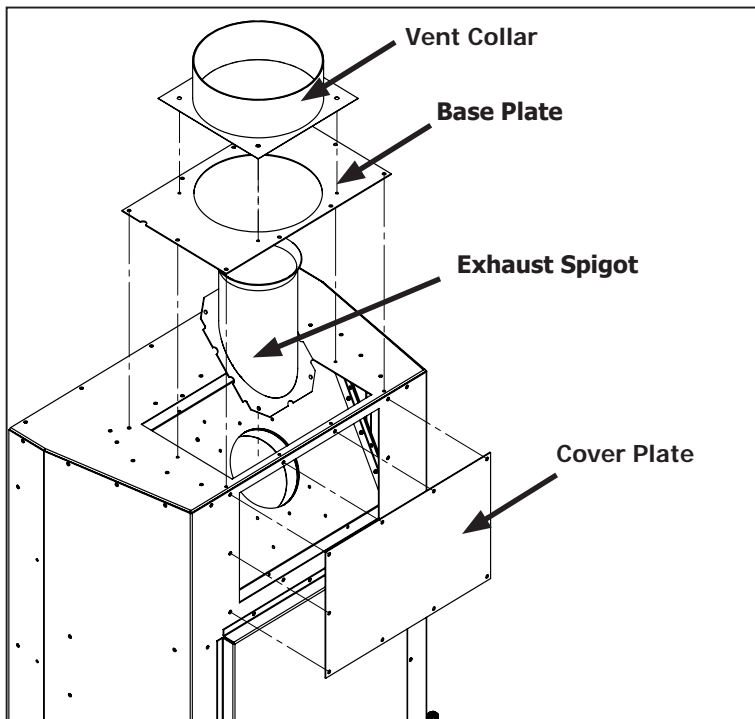

Figure 23. Vent Conversion - Step 1
**Step 1:** Using a T20 screwdriver remove the vent collar, base plate, cover plate and exhaust spigot (28 screws total) as shown in Figure 23.